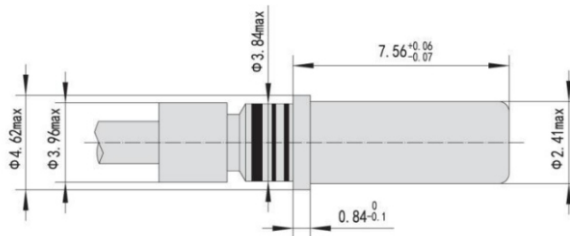

Figure 2.5
⑦Move the shield mesh crimp sleeve forward to ensure the dimension is 6.1-6.86mm. Trim off the excess shield mesh at the front end of the shield mesh crimp sleeve. Crimp the shield mesh crimp sleeve using the crimping tool M22520/05-01 and locator M22520/05-03: crimp once, and the outer diameter of the shield mesh crimp sleeve must be less than 3.96mm.
⑧Figure 2.5 shows the crimped 12# coaxial pin.